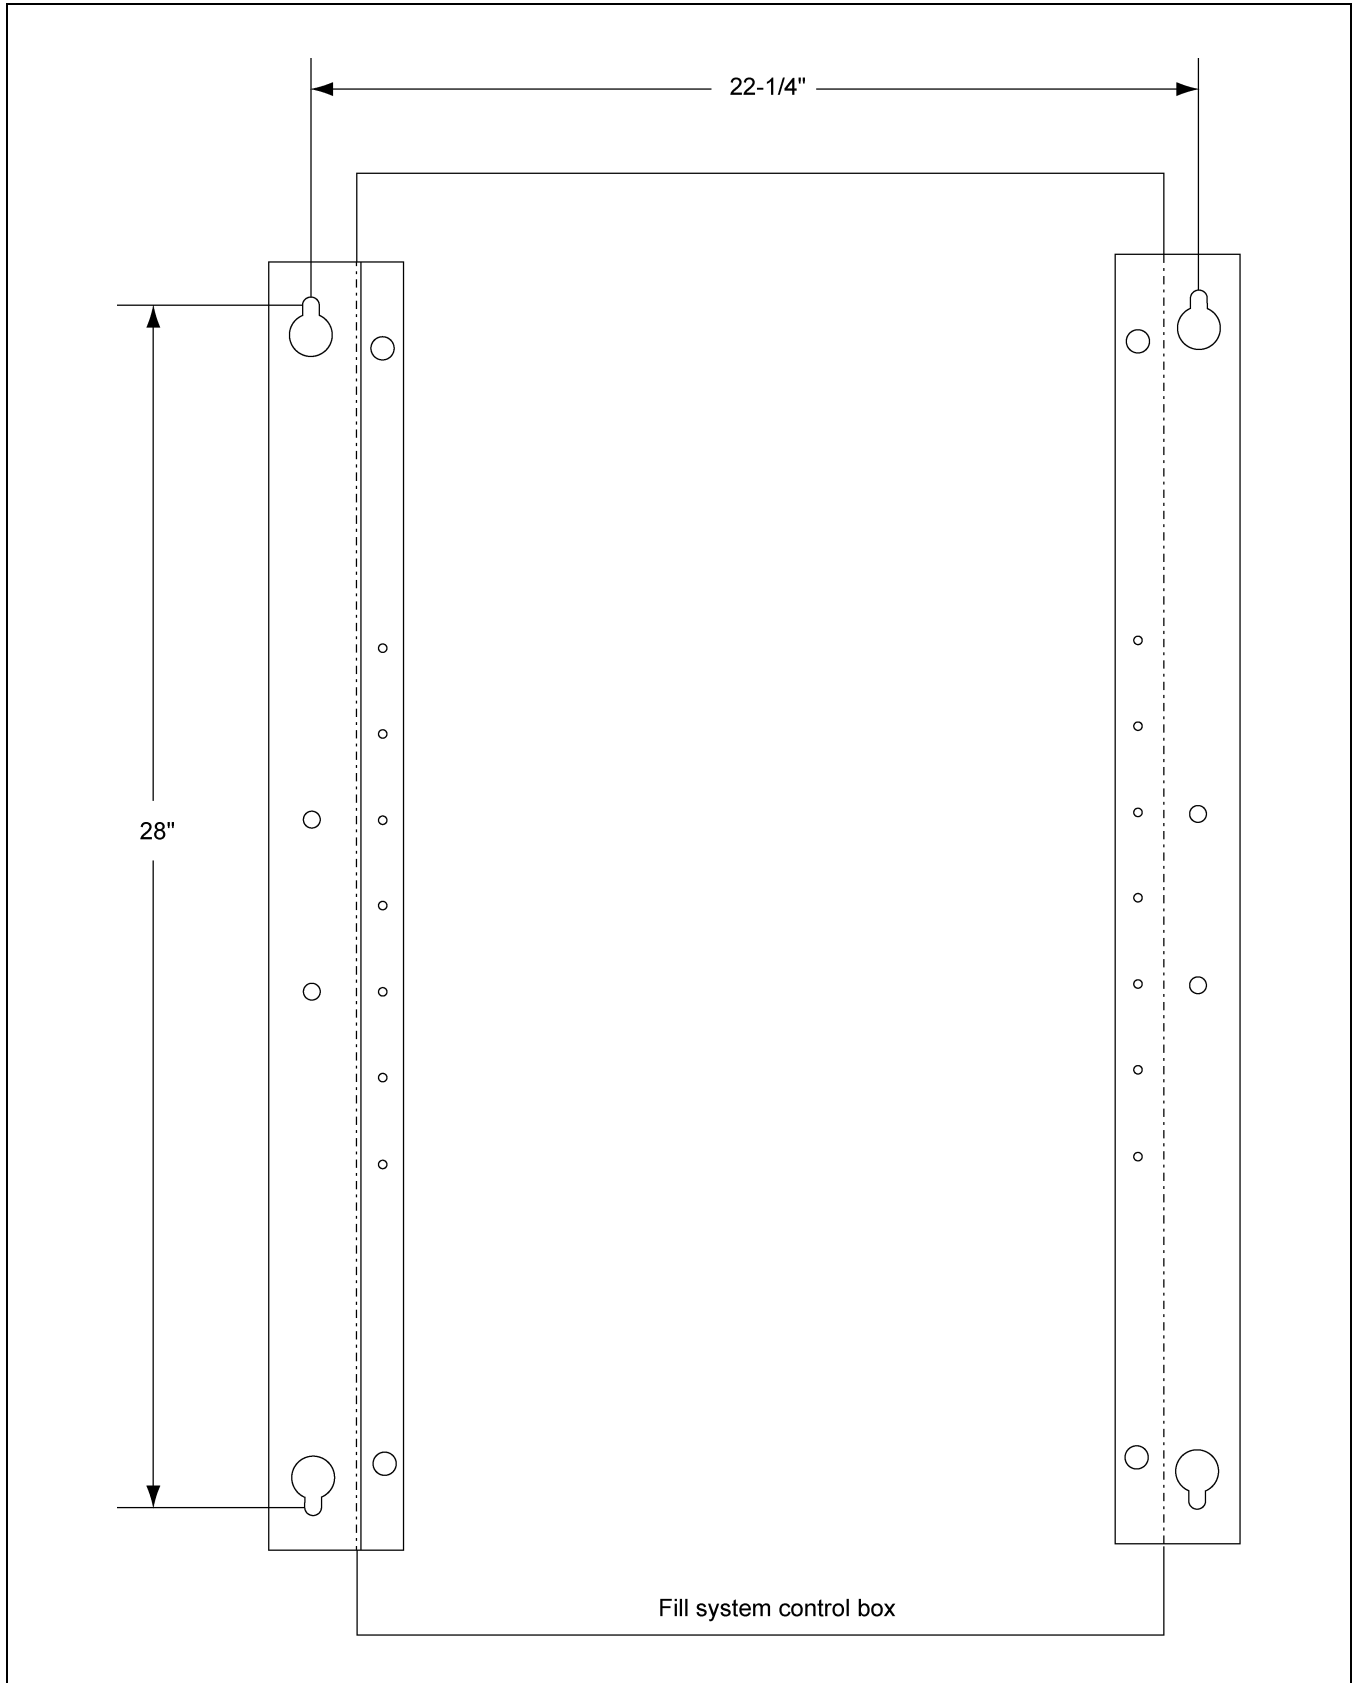

Figure 3E Illustration of the bolt pattern for the fill system control box.
3. Use the pattern in Figure 3E on Page 14 to drill holes for the fill system control box.